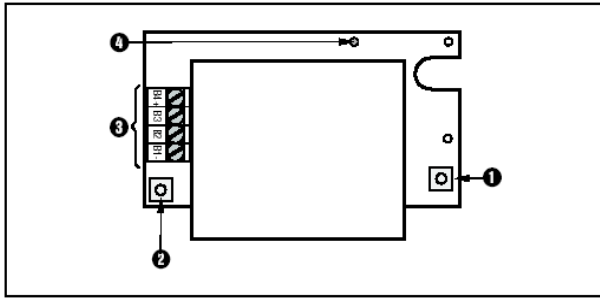

Fig. 3 : SMG51 circuit board
2.3 SMG51 circuit board (fig. 3)
Before closing its housing the W7EG20 must be addressed using the addressing button on the SMG51 circuit board (see fig. 3). For the detailed planning and addressing procedure refer to the further sections in this document, especially section 5.2.
4. When the Sintony control panel is waiting for the W7EG20 press the addressing button on the SMG51 circuit board (see fig.3) and keep it pressed few seconds until the LED for the E-Bus on the SMG51 board flashes again.